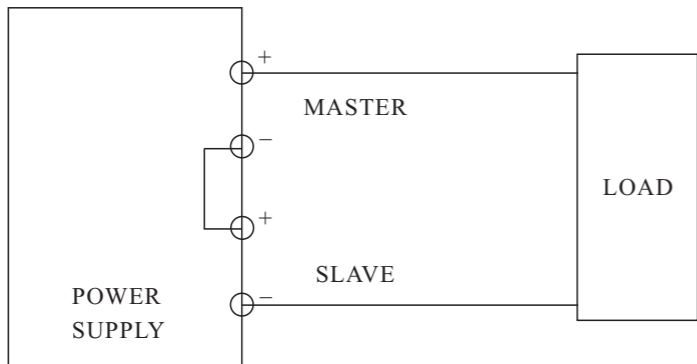

Fig.4-3 Single Supply
- E. If " single supply" operation is desired, this allows the power supply to be used as twice the voltage and rating current simply by using the negative (black) terminal of the SLAVE supply and the positive (red) terminal of the MASTER supply, the configuration as shown in Fig.4-3.
##### B. Single supply (Fig.4-3)